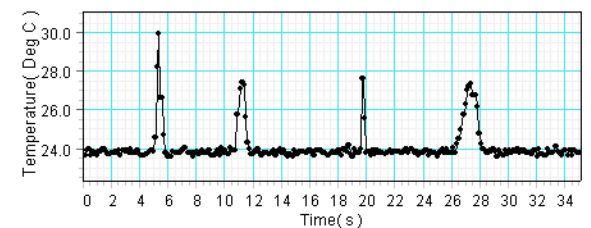

Figure 5: People walking past the sensor
- Place the sensor horizontally on a table and start recording data. Display the data on a temperature versus time graph. Walk quickly past the sensor (Figure 5).